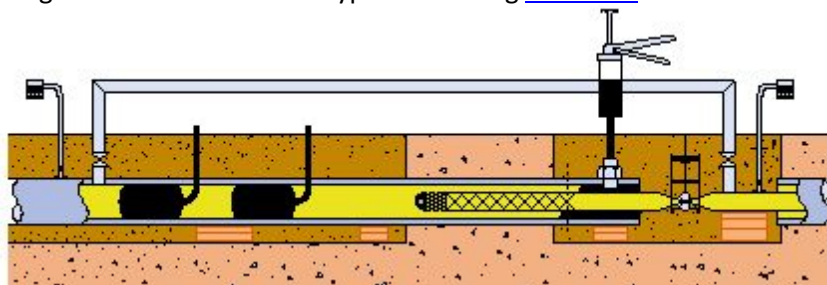

Figure 17- Insertion of Flow Stop Equipment on a Section of Main to be Either Further Inserted or Connected to Existing System or is Two-Way Fed
19. Insert flow stop equipment between live head and the downstream by-pass connection, see Figure 17.
20. Squeeze off new PE main, see Figure 17.